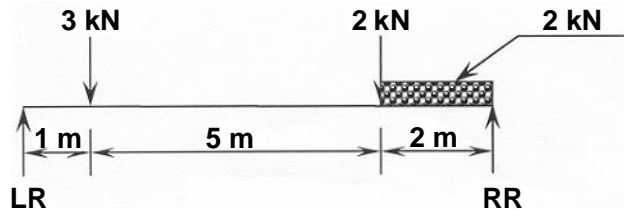

Figure 3
3.2 **Figure 3** shows a simple supported beam that is 8 metres long. The beam carries two vertical point loads as well as a distributed load of 1 kN/m on the 2 metre section of the beam as indicated.